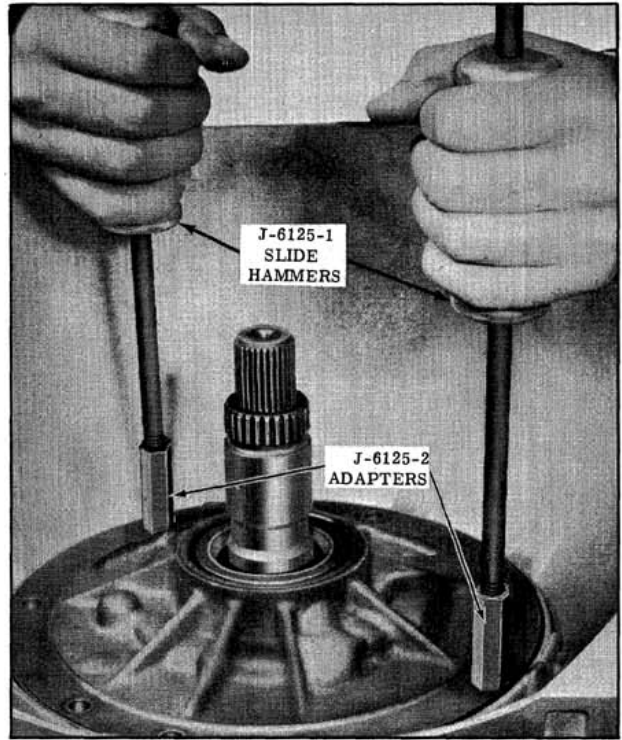

Fig. 6-56 Removing Front Pump
2. Remove the pump attaching bolts. Install bolts with Slide Hammers J-6125, into bolt holes in pump body and remove pump assembly. (Fig. 6-56)